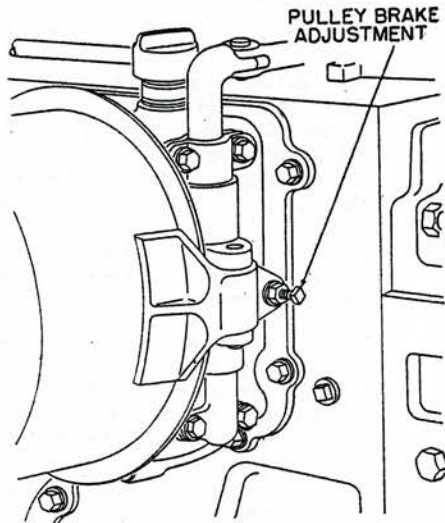

Fig. 23A Pulley brake adjustment on Model 60. Model 50 is similar
**MODELS 50, 60**—The pulley brake should be adjusted so that when the clutch operating lever is moved slightly from the rear of the released position, pulley is free to turn. This adjustment is made with the clutch lever in the position where the clutch is ready to engage and the pulley brake tight against the pulley. With the clutch lever and pulley brake in this position, turn the adjusting set screw until there is approximately  $\frac{1}{8}$ " clearance between the end of the screw and the operating pin, Fig. 23A.